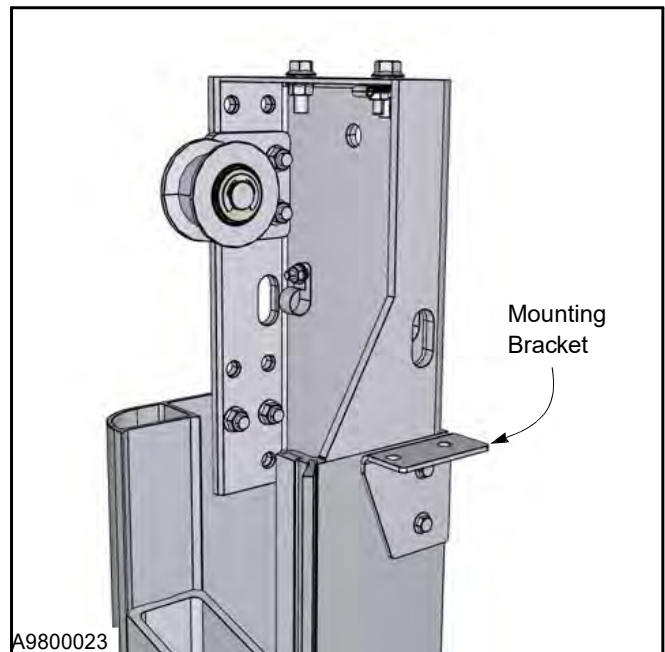

Figure 15
2. Attach the mounting bracket of the rear spreader to each side column and reinstall the hardware that was removed in the previous step. (See Figure 15)